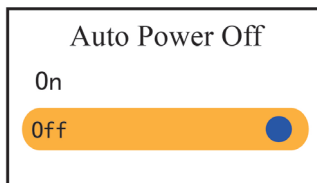

Figure 4.10E Auto Power OFF setup
- Auto power off: To turn on/off the Auto Power Off mode, the factory default is "On", as shown in figure 4.10E.